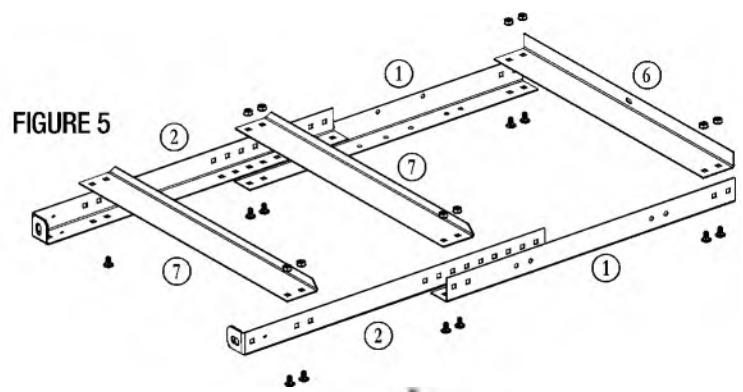
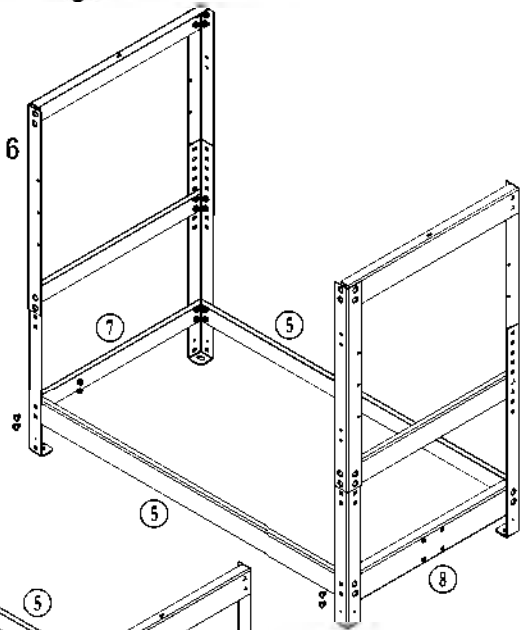

FIGURE 6
FIGURE 7
6. Insert the (2) Carriage Bolts through the assembly and secure using (2) Kep Nuts. The adjacent (2) Carriage Bolts and Kep Nuts will be installed later.
7. Attach one end of the Table Brace ⑥ to the Upper Leg. Make sure the flange with the hole is facing up, toward the top of the Leg.
8. Use (2) Carriage Bolts and Kep Nuts to attach the Shelf Brace ⑦ to the Lower Leg. Make sure the flange with the notched corners is facing up, toward the top of the Leg.
9. Attach the other Long Bottom Leg ② and the Upper Leg ① to the Table Brace ⑥, Shelf Brace ⑦ and Wheel Brace ⑧ using Carriage Bolts and Kep Nuts.
10. Place a Long Shelf Brace ⑤ between the previously assembled sides and secure using (2) Carriage Bolts and (2) Kep Nuts each side. **FIGURE 6.**
11. Install another Long Shelf Brace ⑤ on the opposite side of the first. You should now have two Braces installed.
12. Place another Long Shelf Brace ⑤ between the sides and secure using (2) Carriage Bolts and (2) Kep Nuts each side. **FIGURE 7.**
13. Install another Long Shelf Brace ⑤ on the opposite side of the first. You should now have four Braces installed.